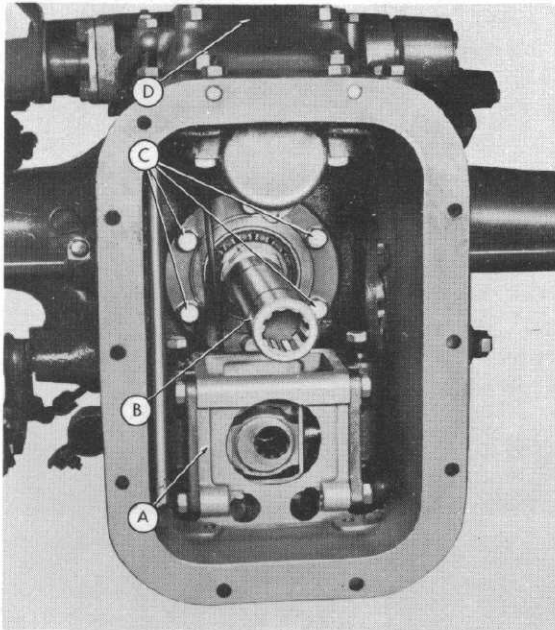

Fig. 1
- Step 1—Remove the drive shaft (B-Figure 1).
- Step 2—Remove the hydraulic lift cover assembly (D-Figure 1).
- Step 3—Remove the hydraulic pump (A-Figure 1).
- Step 4—Remove the six pinion carrier cap screws (C-Figure 1).